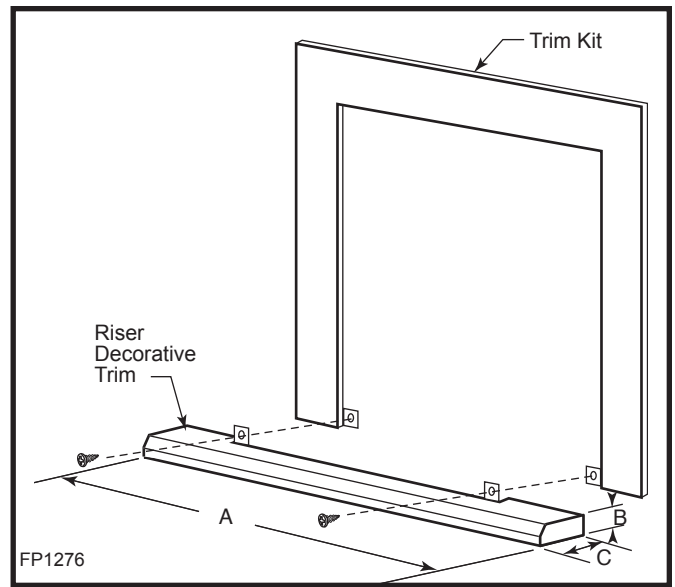

Fig. 56 RHEBSL, RHEBXL trim kit.
3. Remove the two (2) screws at the bottom of the trim.
4. Install the riser at the bottom of the trim. (Fig. 56)
5. Fasten the trim with the same two (2) screws removed in Step 3.